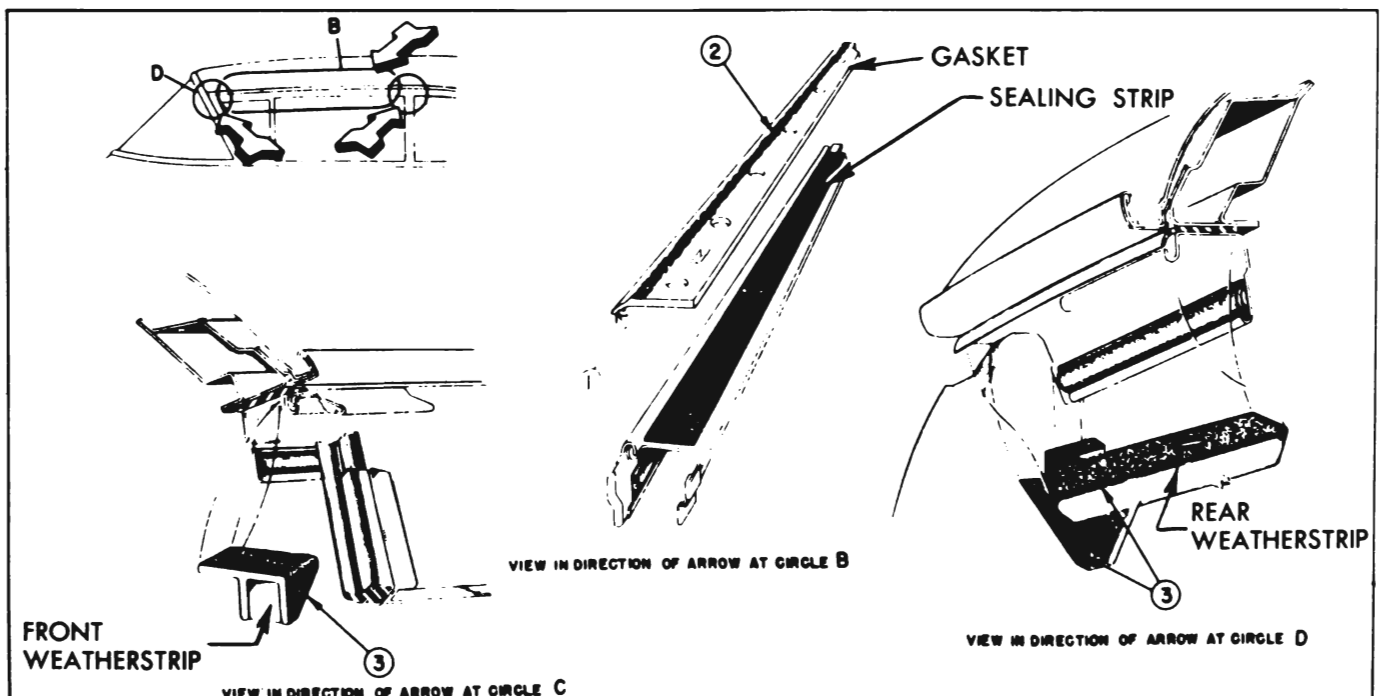

Figure 13-199—Side Roof Rail Mechanical Sealing Strip
4. Apply a continuous $\frac{3}{16}$ " ribbon of caulking compound along entire length of gasket just outboard of attaching holes and along front edge of gasket as indicated by "2" in figure 13-199. Compound should compress easily so that it does not interfere with installation and operation of sealing strip.
6. Apply an approved weatherstrip cement to top and end contacting surfaces of front and rear weatherstrips as indicated by "3" in figure 13-199, and install weatherstrips.
In cases where the action of the outer sealing strip is sluggish due to friction with lip (awning) of the rubber gasket, apply a sparing amount of a silicone rubber lubricant along the entire length of the exposed inner lip of the gasket, as indicated at "1," in figure 13-199.